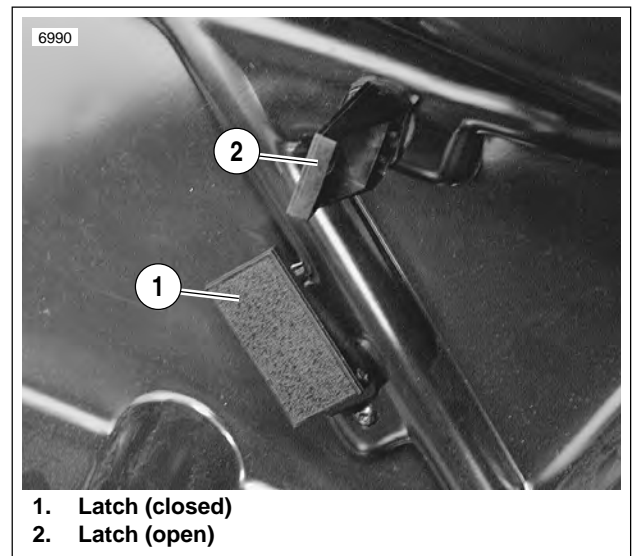

Figure 2-124. Saddlebag Latches
2. See Figure 2-124. Attach saddlebags to brackets by turning fasteners 1/4 turn to the rear. Handles will be parallel to molded channels inside saddlebag. Gently push fastener handles closed, do not force.